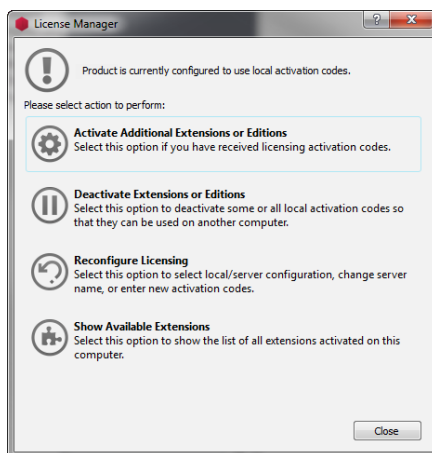

Figure 1.4: License Manager Dialog
- Click on the *Activate Additional Extensions or Editions* button (see Figure 1.4)
- Open the *Help > License Manager* (see Figure 1.4)